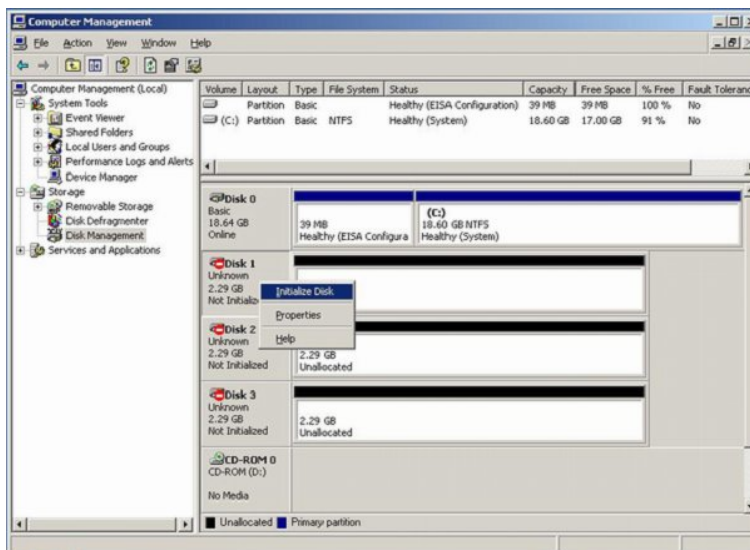

Figure 3.4 Writing Signatures
3. The Disk Management now displays each new device by disk number and asks if you want to write a signature on the disk (see Figure 3.4). You may only write a signature once on each device. To verify the device type for each disk number, for all SCSI disk devices, select **OK** to write a signature. For FX devices without MSCS, select **No**. For FX devices with MSCS, select **Yes** and observe this warning: